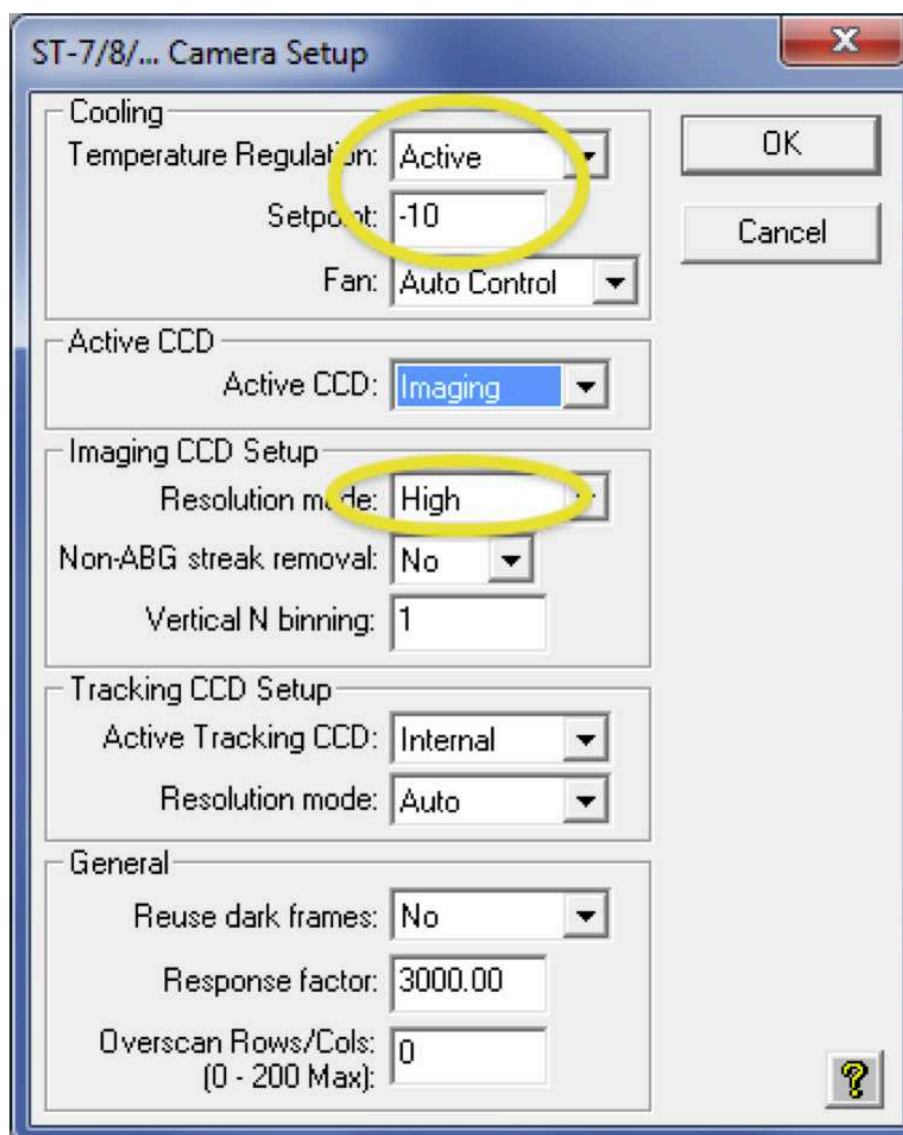

Figure 16: Camera setup panel with default values and user options indicated by circles.
standard operation settings (*Camera-Setup*, see *Fig. 16*)
- **other settings** do not change other settings but use default values given in *Fig. 16*.